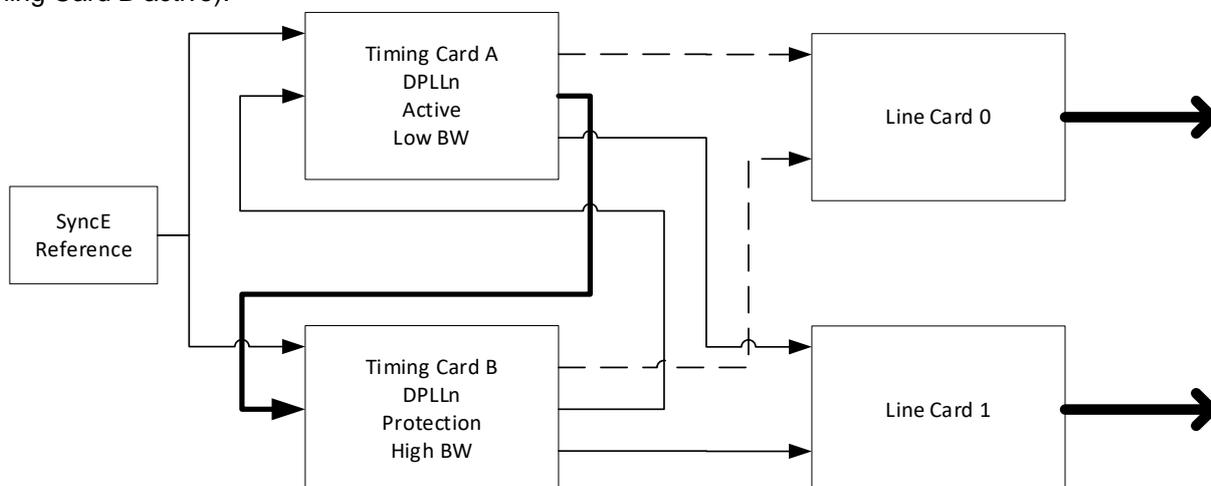

Figure 1. Diagram with Timing Card "A" Active
- Figure 1. Diagram with Timing Card “A” Active2
Prior to the switch, Timing Card A locks to the external reference with a low (SyncE) bandwidth. Timing Card B locks to Timing Card A with a high bandwidth. The line cards lock to Timing Card A. Figure 1 shows the diagram before the switch (with Timing Card A active).